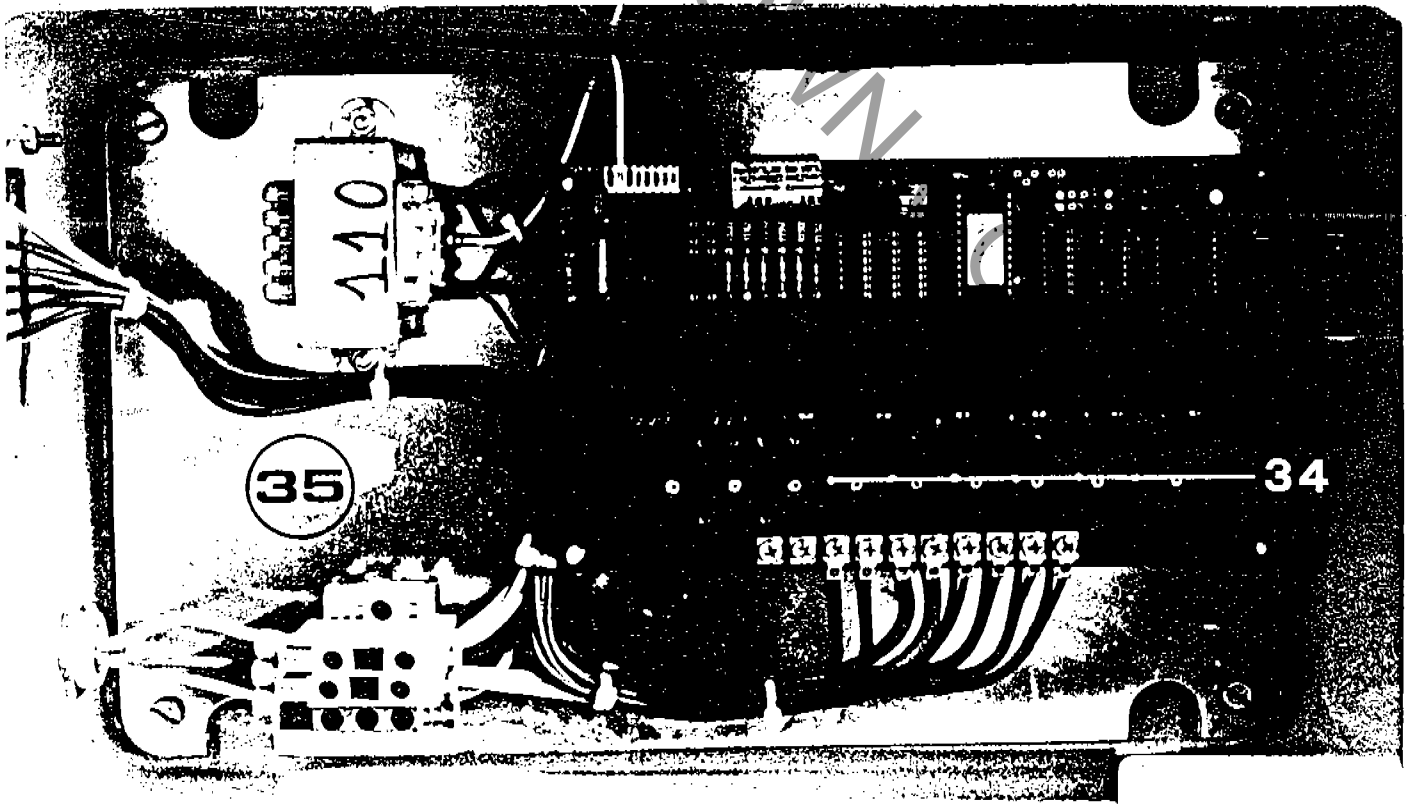

FIG. 12
CHECK THE FUSES (34) OF THE ELECTRIC BOX (35)(FIG. 12) PLACED ON THE SIDE OF THE HILL OF THE TRACK. FURTHERMORE CHECK IF ANY BULBS IS NOT WORKING AND REPLACE IT IF NECESSARY.